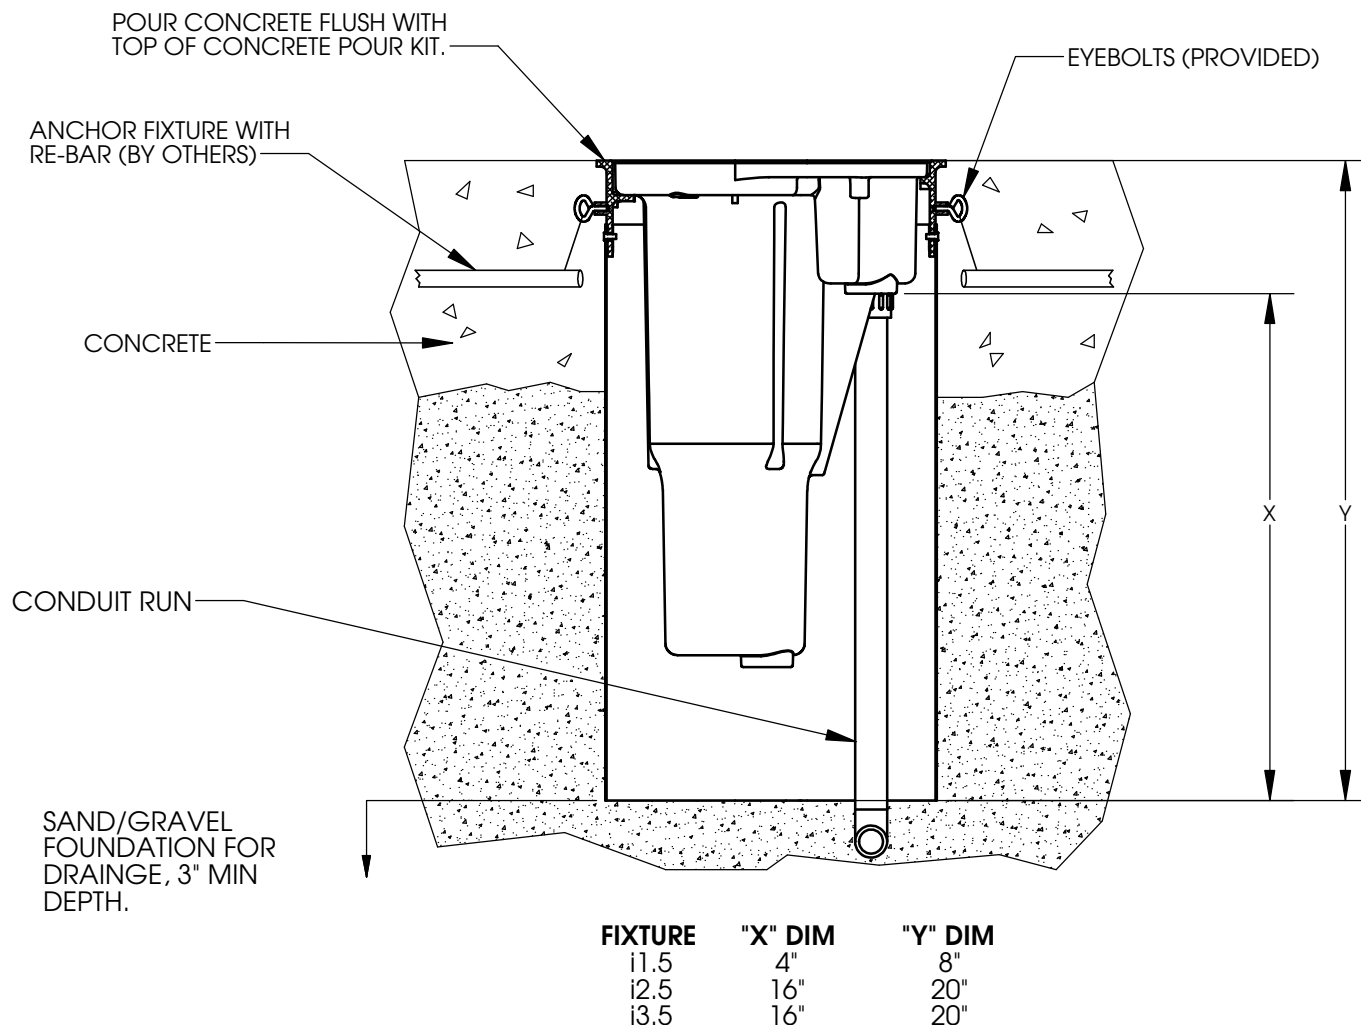

Figure 1: CPS25 POUR KIT WITH I25 FIXTURE SHOWN. INGROUND FIXTURES SOLD SEPERATELY.
- STEP 4: Run sufficient conduit so that it will reach the junction box which is near the top of the fixture, see Figure 1.